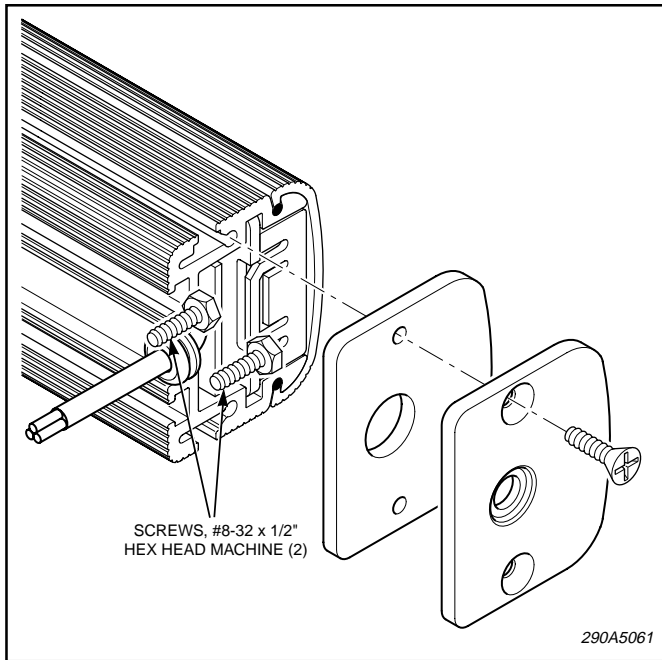

Figure 1.
1. See figure 1. Remove the end cap and gasket from one side of the unit by removing the two flat head screws. Retain the two screws for replacement of these parts.